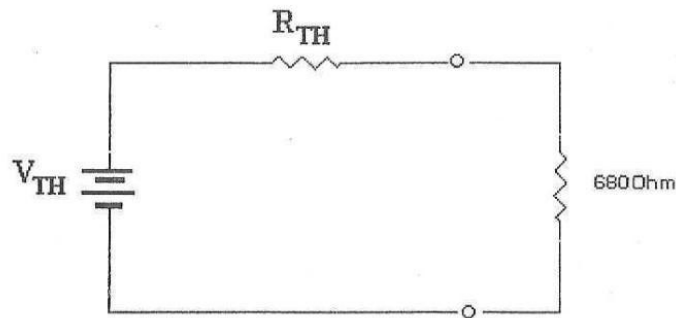

FIG. 3
- A. Wire the circuit shown in Fig.3 below. V_{TH} and R_{TH} are calculated from the equations on page 28 and the measurements from Run 1D and 1E. Note: It may be necessary to "build" R_{TH} from a number of resistors to get a close enough (10%) value.